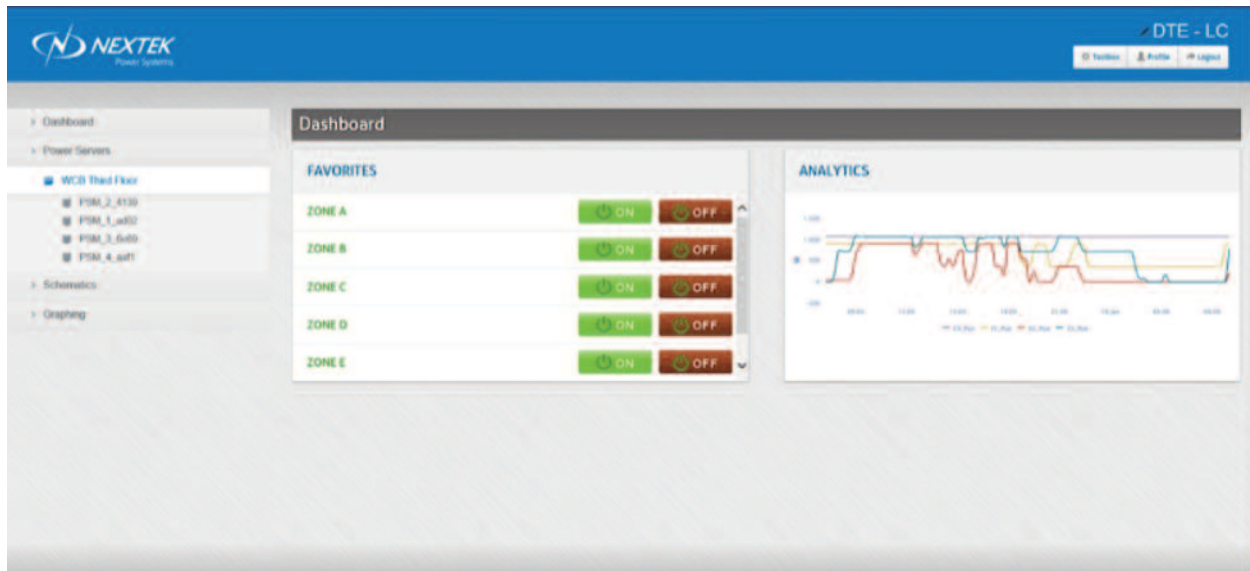

Figure 5
9.5.6 Within this folder you have four PSMs. PSM 1 is located to the far left from the elevators and is shown in Figure 5.